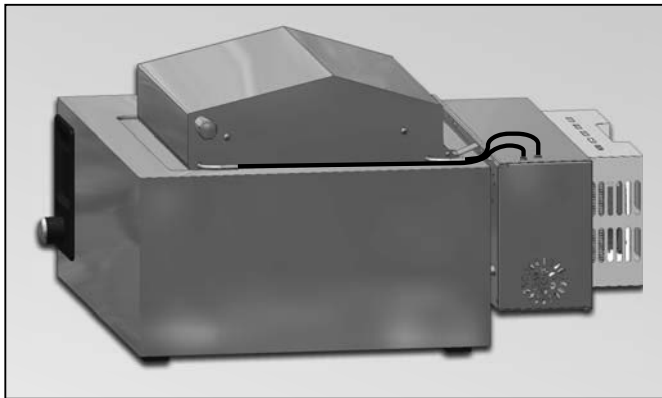
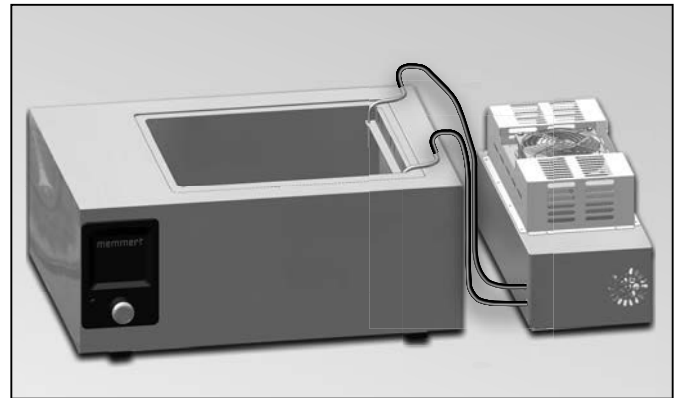

Fig. 3 Cooling unit is fixed to the rear of the waterbath
Fig. 4 Cooling unit standing next to the waterbath
- ▶ attached to the waterbath (only for waterbaths with gable lids, Fig. 3; assembly description from page 9)
- ▶ set up separately next to the waterbath (Fig. 4; assembly description from page 14).
Various accessories are required to connect and assemble the waterbath cooling unit CDP 115. What these are depends on the one hand on the installation method planned (fitted onto the waterbath or separately, see Fig. 3 and Fig. 4) and on the other, on the waterbath type for which the cooling unit is to be operated. (You can determine which type of waterbath you have from its nameplate.)
... Assembly on waterbath (see Fig. 3)	... Standalone unit (see Fig. 4)